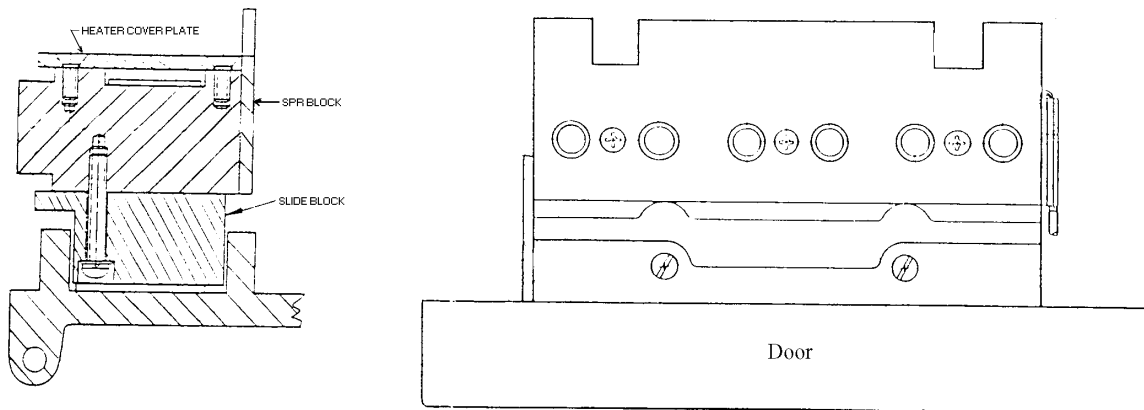

Figure 5-8 SPR Door/Block
2. Open the SPR Door and remove the two screws from the Slide Block (see Figure 5-8). The SPR Block Assembly (P/N 527139-11) and Slide Block will lift off the door.